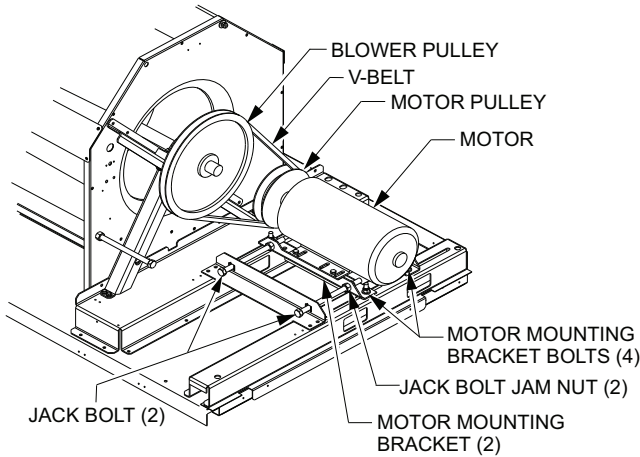

Fig. 18 — Replacing Belt-Driven Motor
When replacing the motor, use the following steps. See Fig. 18.
21. Set new motor and motor mounting bracket back onto the unit. See Fig. 18.